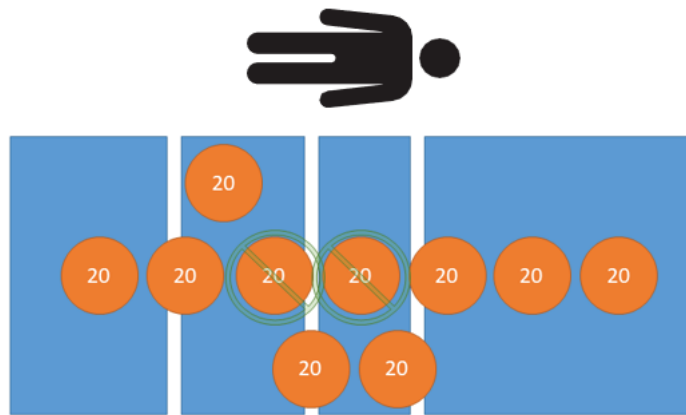

Figure 31 – Tare test - 160 kg net
6. Using calibrated weights, place 160 kg on the product (Figure 31).
8. Using calibrated weights, place 160 kg on the product (Figure 31).